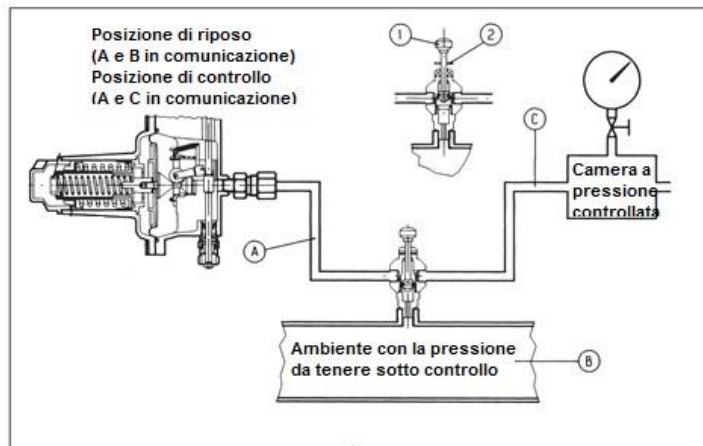

Figure 19: "Push" connection diagram
- A) For the slam-shut devices connected to the downstream piping through the "push" three-way switch valve **11**, proceed as follows (fig. 19):